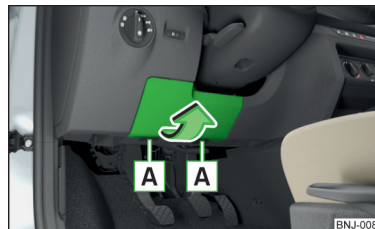

Fig. 199
- Remove the cover of the fuse box » Fig. 199 in the direction of the arrow.